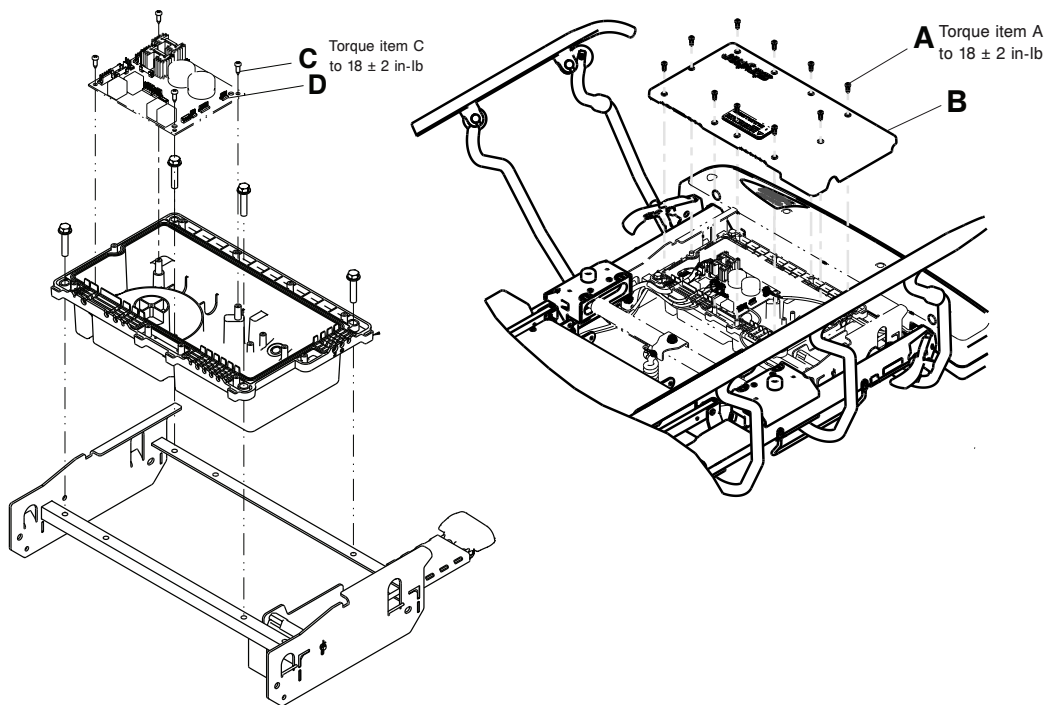

Figure 30 – Control board replacement
5. Using a #2 Phillips screwdriver, remove the 10 pan head tapping screws (A) that secure the control board cover (B) to the control box bottom (Figure 30).